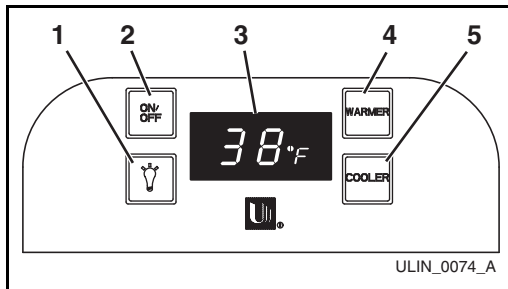

Figure 5
The electronic control with digital display (**Figure 5**) is configured to show a single temperature continuously. This set-point temperature is a base number used by the controller to maintain the temperature zone in your unit. The factory default set-point is 38°F. This set-point temperature is used as a gauge if further temperature adjustments are required.
Model 1175BEV has a DISPLAY OFF mode available through the control panel. This mode allows you to control whether the display (**Figure 5, 3**) will be ON or OFF whenever the door is closed. The button sequence that follows will switch between both modes:
1. Press and hold the WARMER button (**Figure 5, 4**), and simultaneously within five seconds press the ON/OFF button (**Figure 5, 2**) three times.
U-Line products supplied for 110 VAC operation have temperatures displayed in a default Fahrenheit (°F) configuration (**Figure 5, 3**). Models supplied for 220 VAC operation have temperatures displayed in a default Celsius (°C) configuration.
The display can easily be adjusted for either type of temperature display. Press and hold the LIGHT button (**Figure 5, 1**) and simultaneously within five seconds press the COOLER button (**Figure 5, 5**) three times to change the display as desired.
1. Press the WARMER button (**Figure 5, 4**) for five seconds. The display (**Figure 5, 3**) will indicate the actual temperature.